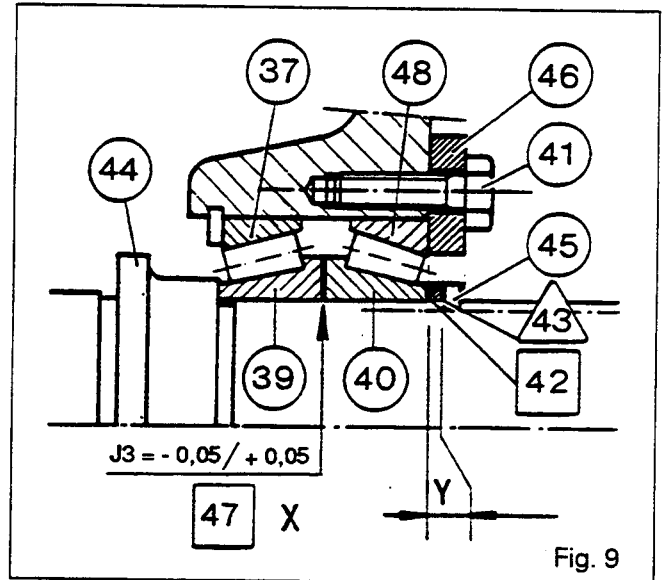

Fig. 9
30. Perform the setting (Fig. 9) with shims in order to obtain :